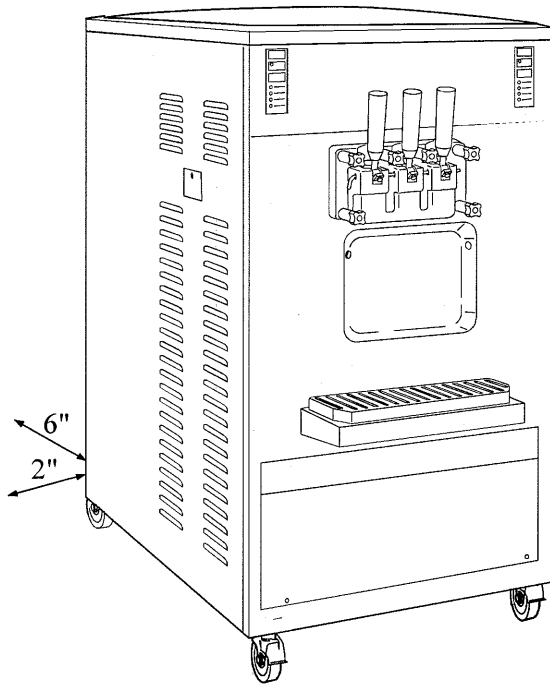

Fig.1
- 1) The freezer is now ready to be positioned. Machines with aircooled condenser must be installed no closer than 2 FT to any wall in order to allow free air circulation around the condenser (Ref. Fig. 1).